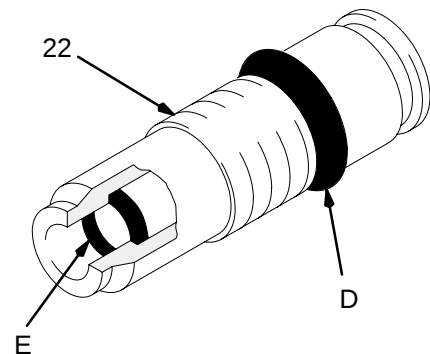

Fig. 10
Test Resistor Stud Resistance (See Fig. 10)
The resistor stud contact ring (D) is a conductive contact ring, **not** a sealing o-ring. See Fig. 10. To reduce the risk of sparking or electric shock, **do not** remove the resistor stud contact ring (D) or operate the gun without the contact ring in place. Do not replace the resistor stud (22) with anything but a genuine Graco part.